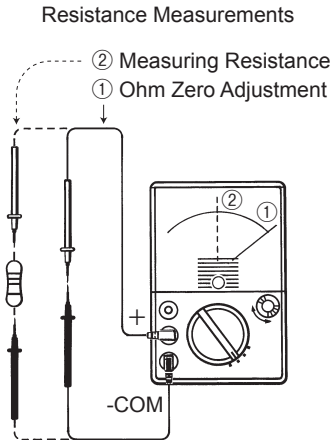

Fig. 2
- (1) Insert the red test lead into the +terminal and the black test lead into the -COM terminal.
- (2) Set the range selector switch to the desired range position.
- (3) With the test lead tips shorted together turn the zero ohm adjust knob so that the meter pointer lines up with the zero mark at the right end of the ohm scale.
- (4) Turn off power to the circuit under test.
- (5) Connect the test leads to both ends of the circuit under test and take the reading (Fig. 2).